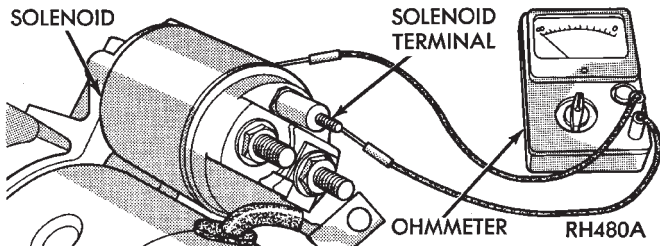

Fig. 7 Continuity Test Between Solenoid Terminal and Solenoid Case
(3) Check for continuity between solenoid terminal and solenoid housing. There should be continuity (Fig. 7).